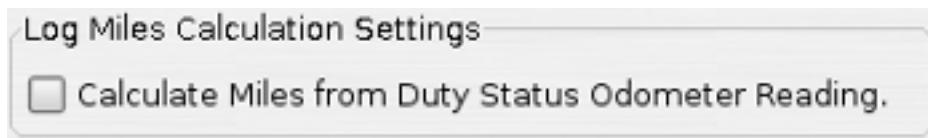

Figure 5.17. Odometer Calculation Settings
3. Under "Log Miles Calculation Settings" for mode 1 make sure the check box "Calculate Miles from Duty Status Odometer Reading" is not checked. For mode 2 make sure the "Calculate Miles from Duty status Odometer Reading" is checked. See Figure 5.17, "Odometer Calculation Settings".